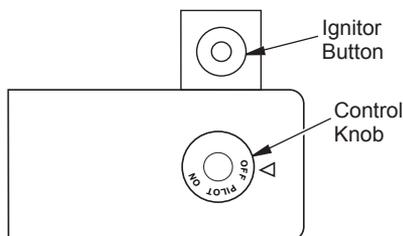

Figure 17 - Control Knob and Ignitor Button Location (Shown as Supplied, No Control Options)
5. Wait five (5) minutes to clear out any gas. Then smell for gas, including near the floor. If you smell gas, STOP! Follow "B" in the safety information, page 11. If you don't smell gas, go to the next step.
6. Press in and turn control knob counterclockwise to the PILOT position. Press in control knob for five (5) seconds (see Figure 17).